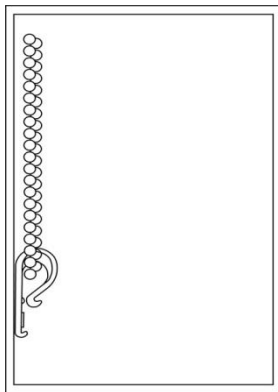

Figure 1
- Insert the idle mechanism into the idle bracket (part C) so it is engaged (Figure 1)
1. Position the tension device at the bottom of the chain loop (Figure 1)